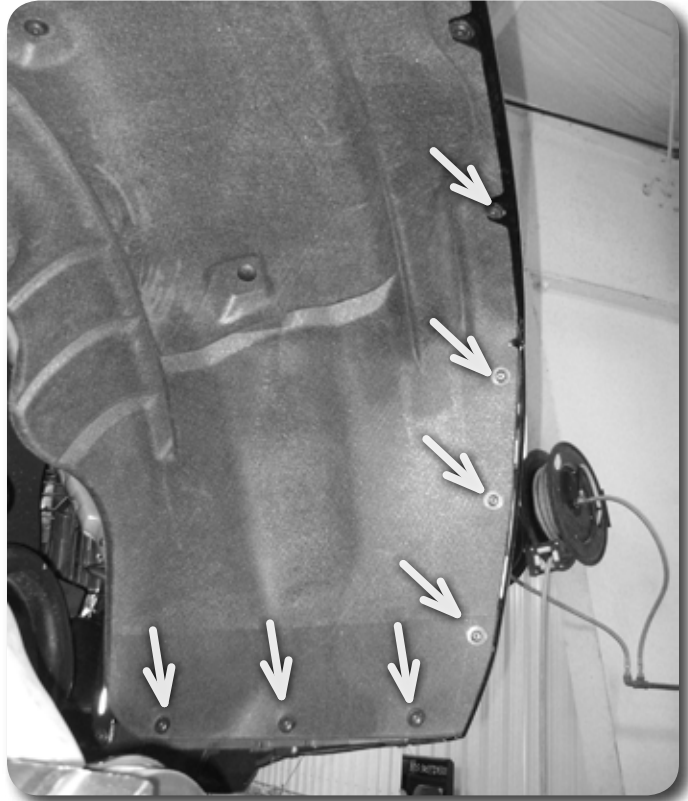

Figure 3
8. On both sides remove the front 7 screws mounting the inner fender to the front bumper and fender and pull the fender rearwards to gain access to the outer fascia to fender mounting bolts. See Figure 3